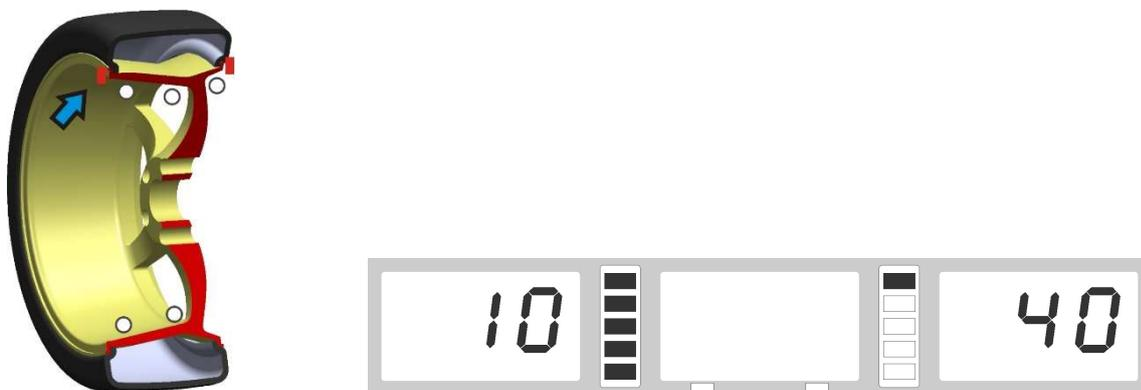

Fig. 4
- Slowly turn the wheel further anti-clockwise. Now the left display with fully lit LEDs, shows the correct angular position where the balancing weights (12 o'clock position) must be placed on the inside, as shown in **Fig.4**.